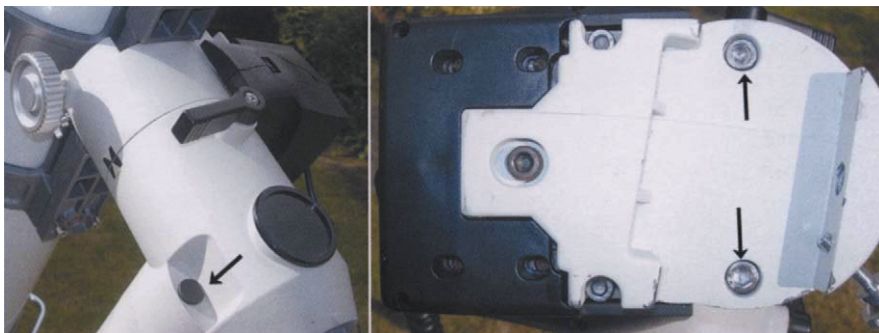

Figure 11.8. RA (left) and Dec (right) axes friction adjusting bolts.
- Check the friction between the Dec section of the mount and the RA section of the mount. Remove two rubber tips that cover the holes, which contain two hexagonal bolts (Figure 11.8 left image arrowed. Note: only one bolt is shown as the other one is on the opposite side of the RA shaft). Use a long Allen key and adjust the bolts to achieve the appropriate level of resistance, when the RA
- Check the friction between the Dec axis cradle slot and the Dec section of the mount. Adjust hexagonal bolts using an Allen key (Figure 11.8 right image arrowed), to achieve the appropriate level of resistance when the Dec lock is loosened and the Dec axis is rotated.